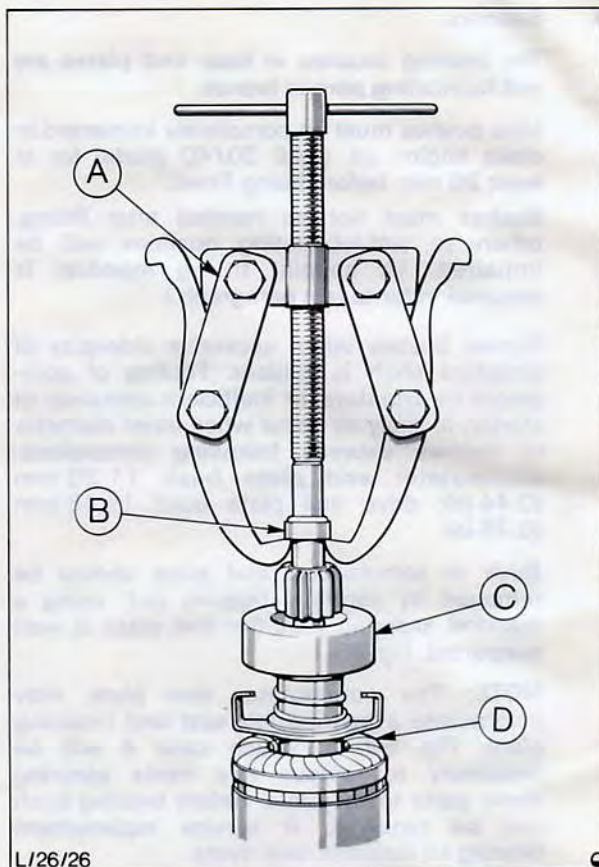

Fig. 52. A – Standard two-leg puller
16. Slide drive pinion assembly and thrust collar onto armature shaft. Fit 'C' clip into its groove in armature shaft and then draw thrust collar over 'C' clip, Fig. 52.